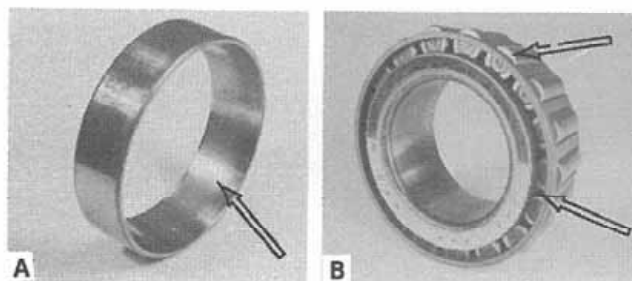

Figure 7:
Bearing sets which are worn because of abrasive contaminants (Fig. 7) may usually be identified by a dull satin finish in the bearing cup (A) raceway and worn roller ends with loose roller cage on the bearing cone (B).